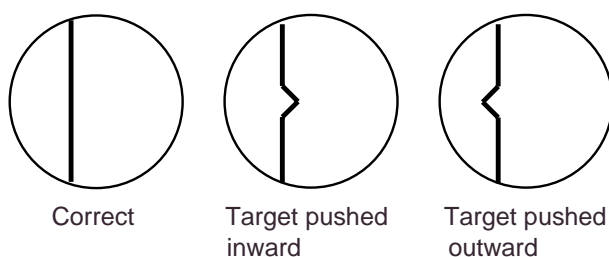

Figure 3-3 Examples of correct and incorrect sweep timings
- The echo of a "straight" target (for example, pier), on the 0.25nm range, will appear on the display as being pulled inward or pushed outward. See Figure 3-3.